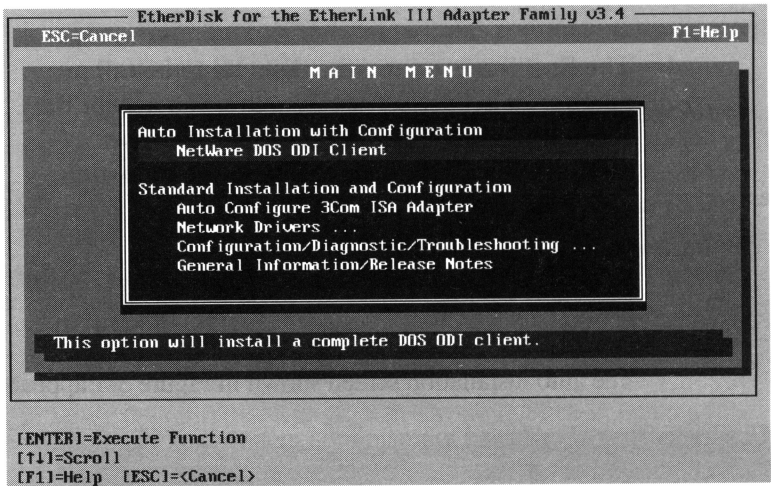

Figure 3-2. Main Menu
- 6. When the main menu screen shown in Figure 3-2 appears, select NetWare DOS ODI Client and press [Enter].